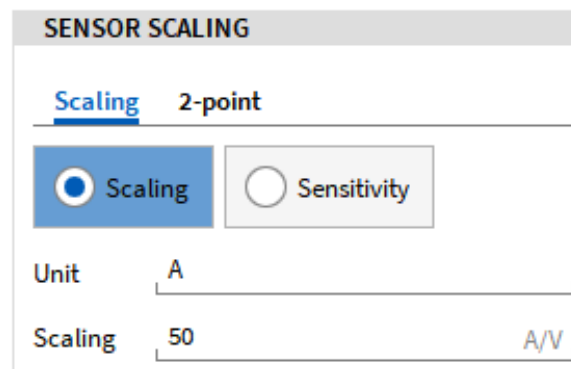

Fig. 7.47: Entering the shunt resistance as scaling factor
- Change the Unit to A (Ampere) and enter the resistance of the shunt resistor as Scaling factor, i.e. 50  $\Omega$  (see Fig. 7.47).